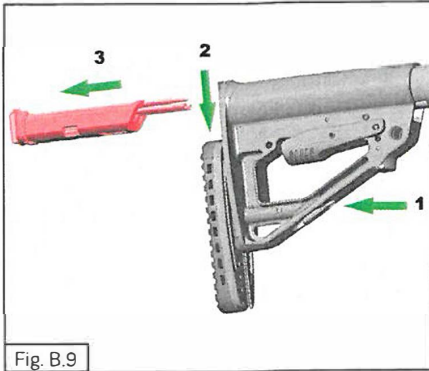

Fig. B.9
- extract the accessories. Shift the butt plate down, as shown in Fig. B.9, for which purpose pull the spring loaded retainer of the butt plate to the front and move the butt plate down. Extract the container with the accessories. Unscrew the sections of the rod from the container. Assemble the cleaning rod to clean and lubricate the carbine. Take out the screwdriver and the drift for the further disassembly procedure.